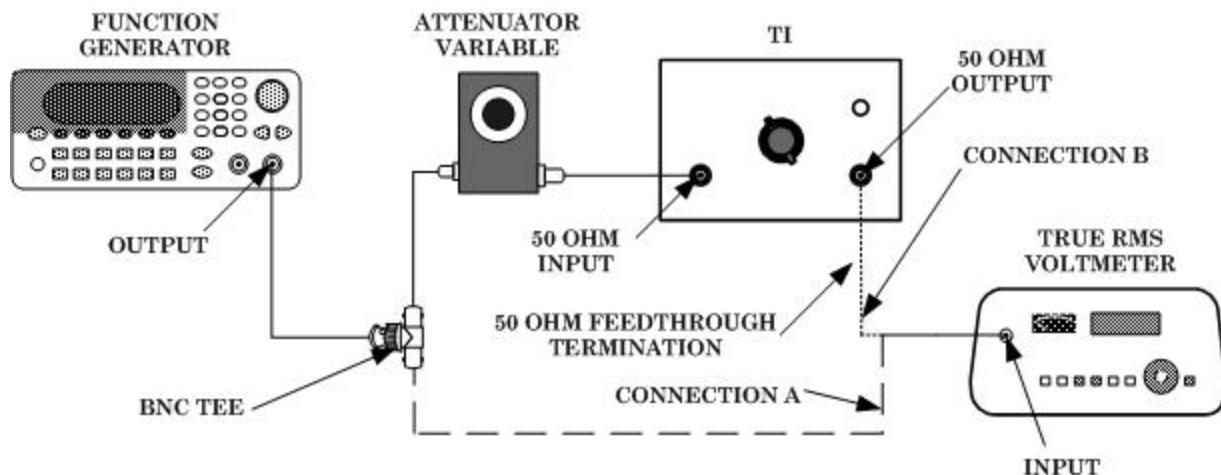

Figure 1. Gain setup.
- (1) Connect equipment as shown in figure 1 connection A.
- (2) Set step attenuator **dB** switch to **40**.
- (3) Set true rms voltmeter **RANGE** to **AUTO**, **DISPLAY** to **dB** and **dBm REFERENCE (Ω)** dial to **50**.
- (4) Adjust signal generator frequency for 500 kHz and output amplitude controls for true rms voltmeter indication of 0 on the **dB** scale.
- (5) Set function generator **Output** to off and connect equipment as shown in figure 1 connection B.
(6) Set function generator **Output** to on. True rms voltmeter will indicate between -0.5 and +0.5 dB.
(7) Set TI **GAIN (DB)** switch to **20**.
(8) Set step attenuator **dB** switch to **20**.
(9) True rms voltmeter will indicate between -1.0 and + 1.0 dB.
(10) Adjust autotransformer output control for meter indication of 105, 125, and 115 vac. True rms voltmeter will indicate between -1.0 and +1.0 dB at each setting.
(11) Set function generator **Output** to off. Connect equipment as shown in figure 1 connection A.
(12) Set function generator **Output** to on and adjust function generator output amplitude controls for true rms voltmeter indication of -3.8 dB.
(13) Set function generator **Output** to off. Connect equipment as shown in figure 1 connection B.
(14) Set step attenuator **dB** switch to **40**.
(15) Set TI **GAIN (DB)** switch to **40**.
(16) Set function generator **Output** to on. True rms voltmeter will indicate between -2.8 and -4.8 dB.
(17) Set function generator **Output** to off.